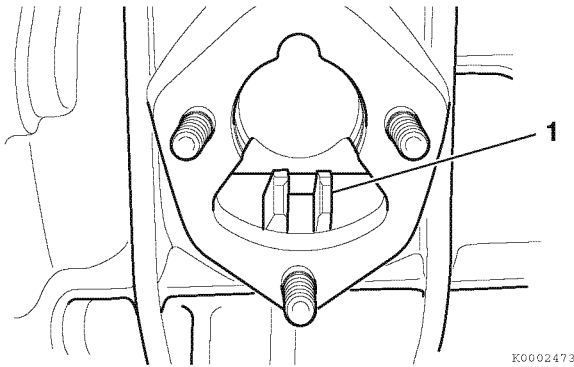

Figure 7-17
- Adjust the throttle control so the governor lever (1, **Figure 7-17**) fork is positioned in the center of the fuel injection pump opening.